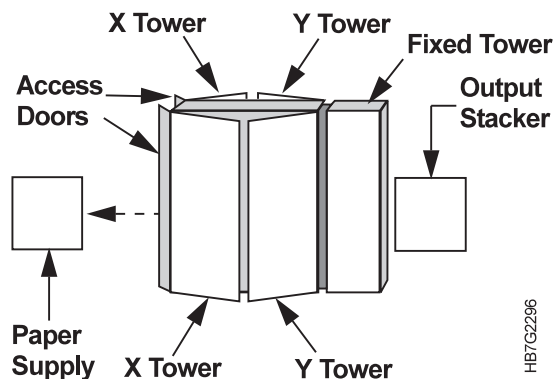

Figure 267. Right Side View of the InfoColor 70
- 1 Move the paper supply away from the print tower, as shown in Figure 267.